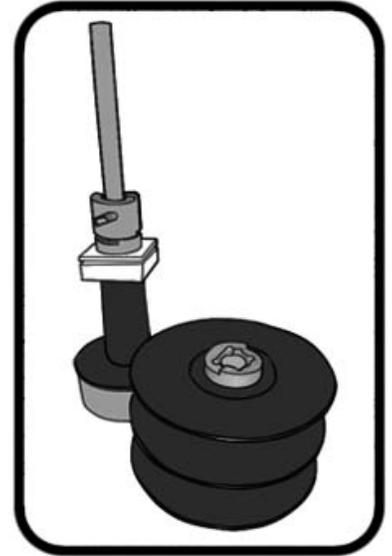

Fig. 7
**Step 6:** Take the assembly apart by removing the rope reel from the shaft. **(Fig. 7)**